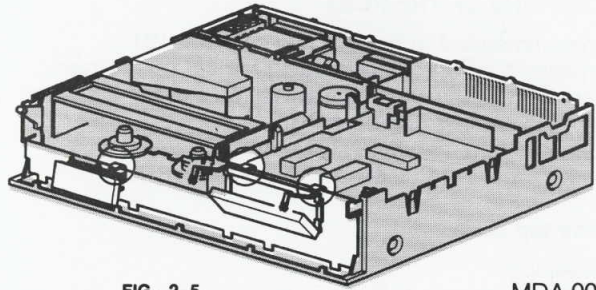

FIG. 2-5
- The PCB can be removed from the lower cabinet by unlocking the three snap constructions (see Fig. 2-5).